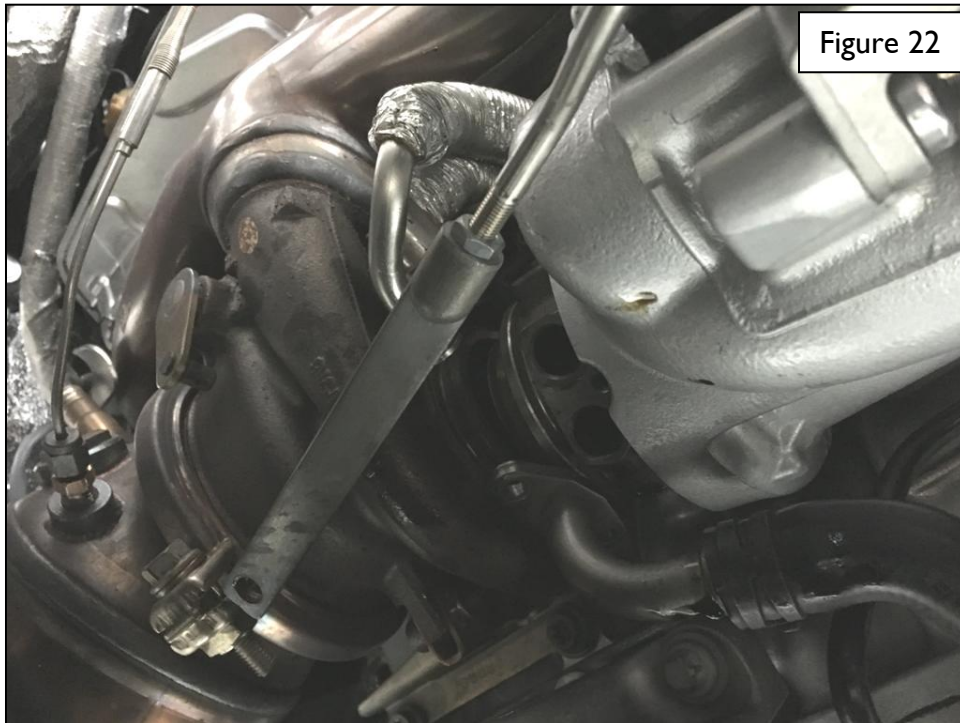

Figure 22
- The wastegate rod should easily detach from the arm (see Figure 22).